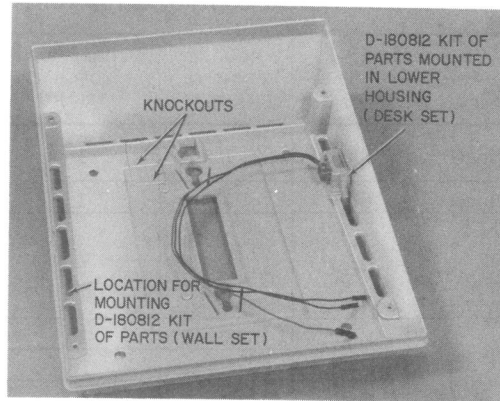

Fig. 13—Lower Housing Removed Showing Knockouts for Access by Adjunct Cords and Locations for Mounting D-180812 Kit of Parts
**8.01** Knockouts are provided in the bottom rear of the lower housing (Fig. 13), to accommodate the additional cords associated with the connections of wiring options such as speakerphone, SPOKESMAN service, etc.